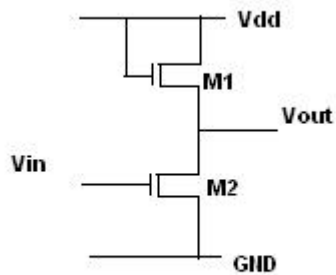

Fig 11.24a
11.9) Derive an equation for the switching point voltage, similar to the derivation of Eq(11.4), for the NMOS inverter seen in Fig 11.24a.